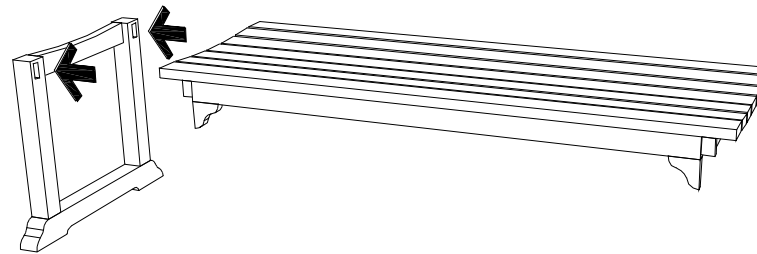

fig 2.
3. Insert the seat to the leg. ( Fig. 2 )